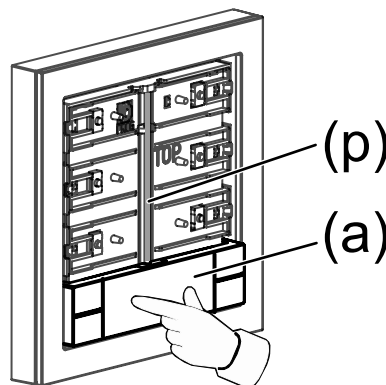

Figure 7: Press lightly in the middle of the rocker
- Push the rocker (a) into place on the axis (p) by pressing the centre of the rocker (a) (labelling field) (see figure 7).
Rocker (a) engages on axis (p) (see figure 7).